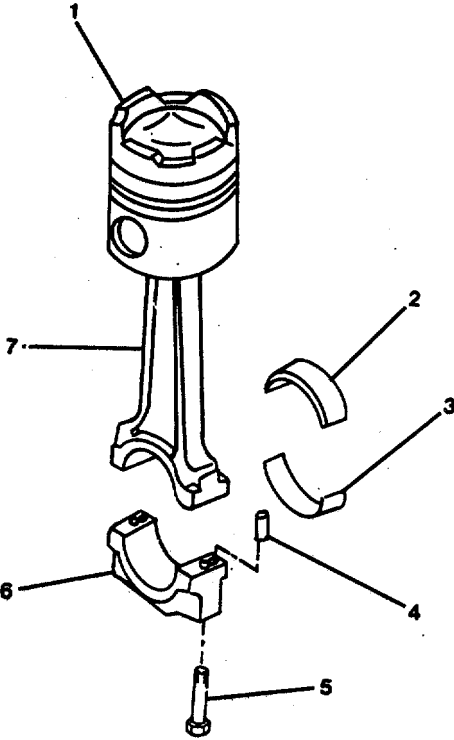

FIGURE 3-74. Connecting Rod and Piston Group.
- b. Loosen, but do not remove, the connecting rod capscrews (5, FIGURE 3-74) .
- c. Use a rubber hammer to hit the connecting rod capscrews (5) to loosen the cap (6) from the dowel (4) in the connecting rod (7).
- d. Check to see if the connecting rod (7) and the cap (6) have matching numbers stamped on them and that they are in the correct cylinder location.
- e. Remove the connecting rod capscrews (5) and cap (6).
- f. Remove the lower rod bearings (3).
- k. Install the lower rod bearing (3, FIGURE 3-74) in the connecting rod cap (6).
- l. Lubricate the bearing shell (3) with Lubriplate 105 or its equivalent. Lubricate the connecting rod capscrew (5) threads and the washer face with the engine lubricating oil.
- m. Install the connecting rod caps (6, FIGURE 3-74) and the capscrews.
- n. Tighten the rod capscrews (5) in alternating sequence to the following torque values:
- (1) Tighten to 75 ft-lb torque.
- (2) Tighten to 170 ft-lb torque.